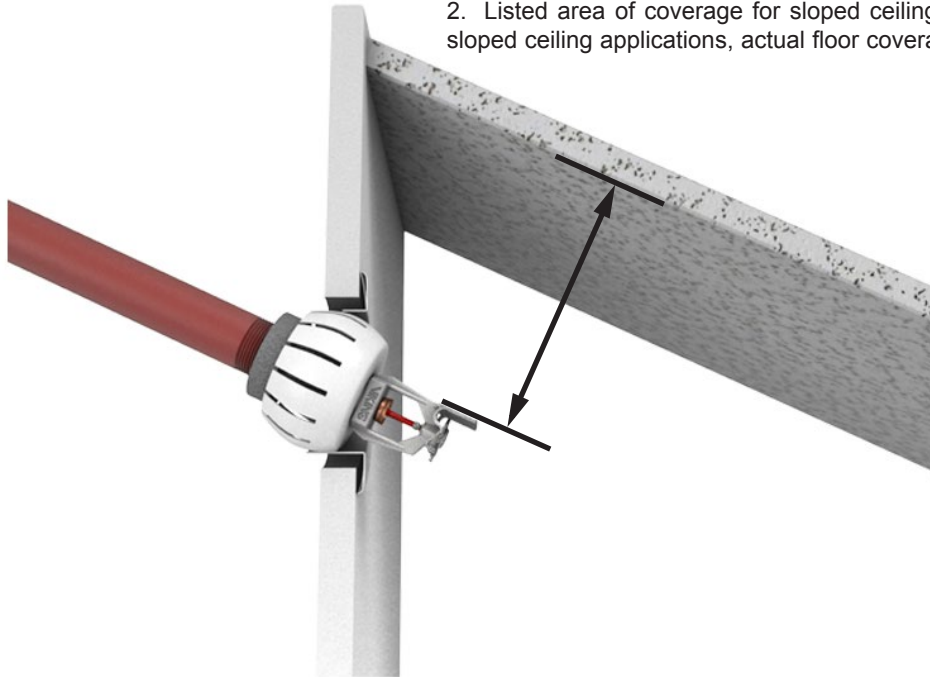

Figure 6: Model G-1 Recessed Escutcheon Installed with an EC HSW Sprinkler below a sloped ceiling.
Sprinkler VK609 (Base Part No. 13971) for Quick Response - QREC Specific Application - Maximum 175 PSI WWP For installation with the deflector located 4" to 6" (102 mm to 152 mm) below sloped ⁸ ceilings with slopes from 2/12 through 4/12 (9.5° to 18.4°) pitch. Sprinkler must be located at the high-point intersection of the wall and the ceiling with spray directed down the slope. Refer to Figure 6.
⁸ Listed area of coverage measured along ceiling slope. Consult Figure 6 for installation notes.
- In sloped ceiling installations, sprinkler VK609 is listed for installation at the high-point intersection of the wall and the ceiling. In sloped ceiling installations, the spray must be directed down the slope. Spray may NOT be directed across the slope. Refer to Figure 6.
- Refer to the Approval Chart for required deflector distance below the ceiling. Install with the leading edge of the deflector oriented parallel to the ceiling (see Figure 6).